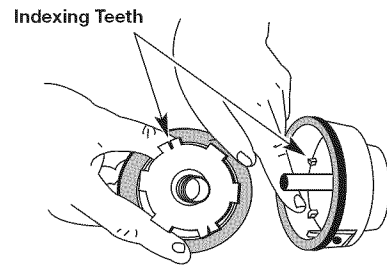

Fig. 16
5. Check the indexing teeth on the inner reel and outer spool for wear (Fig. 16). If necessary, remove burrs or replace the reel and spool.